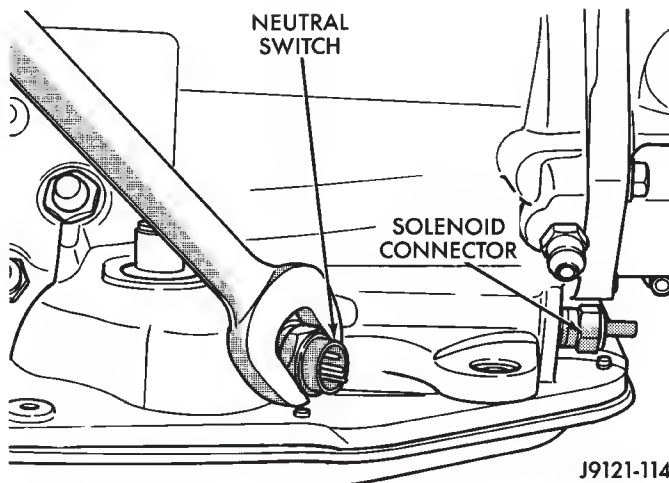

Fig. 3 Park/Neutral Position Switch Removal/Installation
(7) Remove park/neutral position switch and seal (Fig. 3).